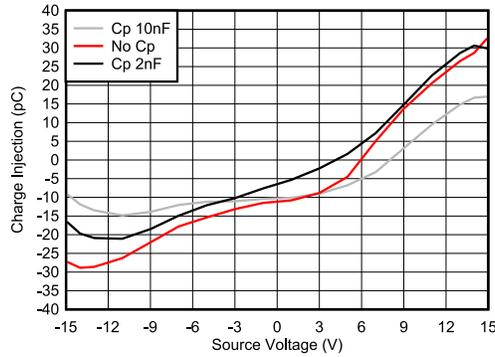

Figure 7-2. Charge Injection Compensation
The TMUX7234 contains specialized architecture to reduce charge injection on the source (S_x). To further reduce charge injection in a sensitive application, a compensation capacitor (C_p) can be added on the drain (D). This will ensure that excess charge from the switch transition will be pushed into the compensation capacitor on the drain (D) instead of the source (S_x). As a general rule of thumb, C_p should be 20x larger than the equivalent load capacitance on the source (S_x). Figure 7-2 shows charge injection variation with different compensation capacitors on the drain side. This plot was captured on the TMUX7219 as part of the TMUX72xx family with a 100pF load capacitance.